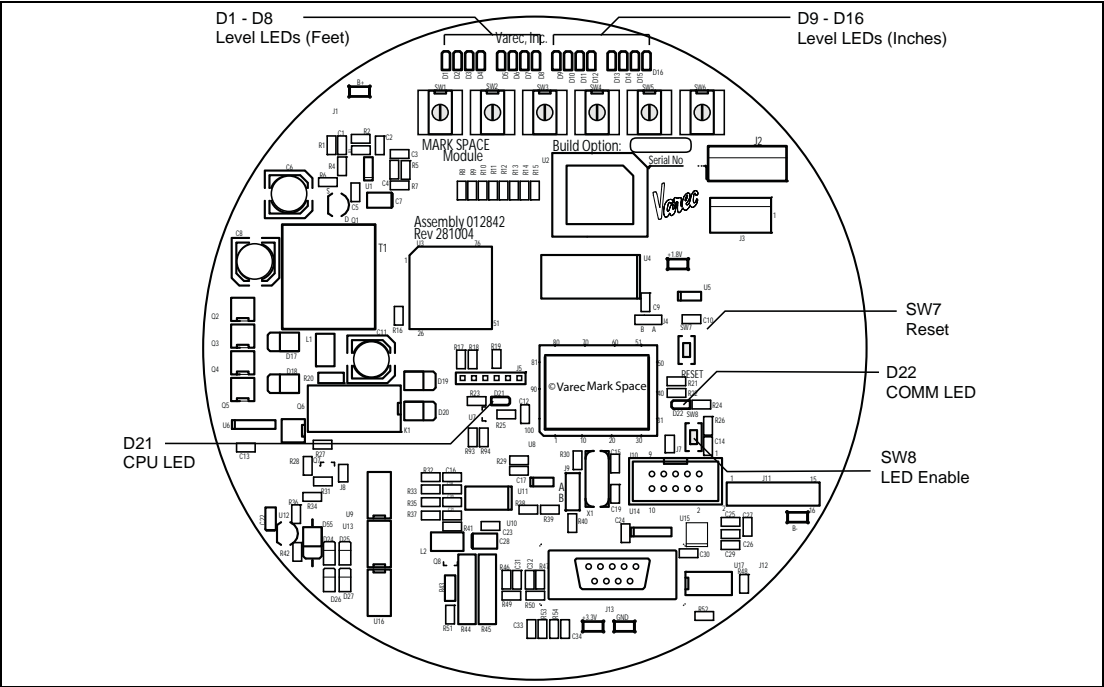

Figure 9-1: Communications Board Diagnostic Switches and LEDs (Mark/Space shown)
Note To activate the LEDs on the communications circuit board, press switch SW8, shown in Figure 9-1 on page 54. The LEDs will be enabled for about three minutes.
2. Press switch SW8 on the communications circuit board to enable the LEDs. To locate SW8, see Figure 9-1 on page 54.